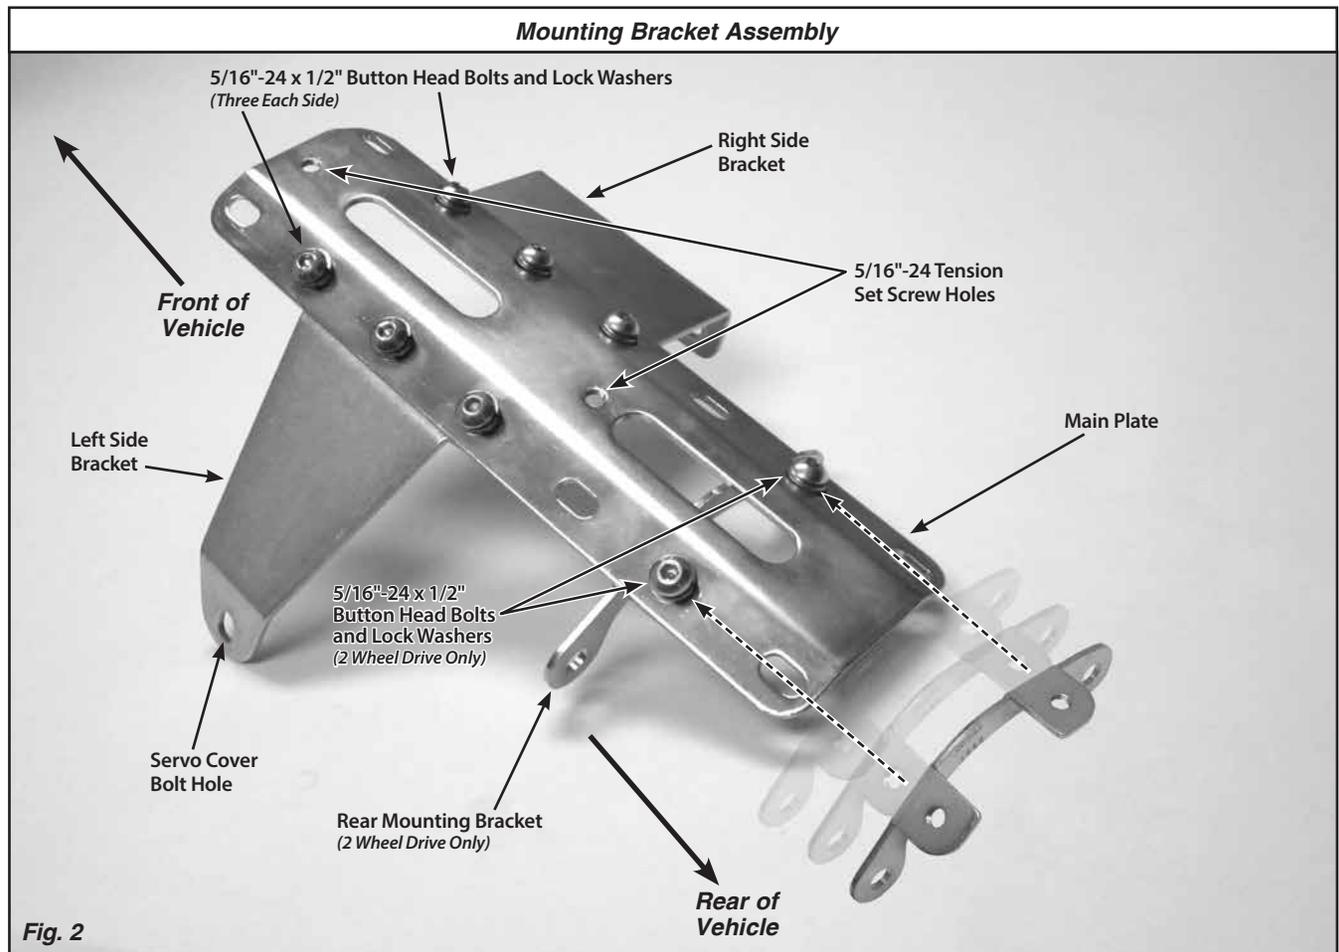

Fig. 2
The left side bracket and right side bracket bolt directly to the main plate. The 1st pair of holes at the very front of the main plate will not be used, and the side brackets will bolt into the 2nd, 3rd, and 4th pairs of holes from the front of the main plate. Attach the side brackets to the underside of the main plate as shown in **Fig. 2**, using three 5/16"-24 x 1/2" button head bolts and lock washers on each side. **DO NOT TIGHTEN AT THIS TIME.**
Step 3: (2 Wheel Drive Transmissions) Attach the rear mounting bracket to the underside of the main plate with two 5/16"-24 x 1/2" button head bolts and lock washers, using the second pair of holes from the back. The bracket ears should point to the rear end of the transmission (toward the rear axle) as shown in **Fig. 2**. **DO NOT TIGHTEN AT THIS TIME.**